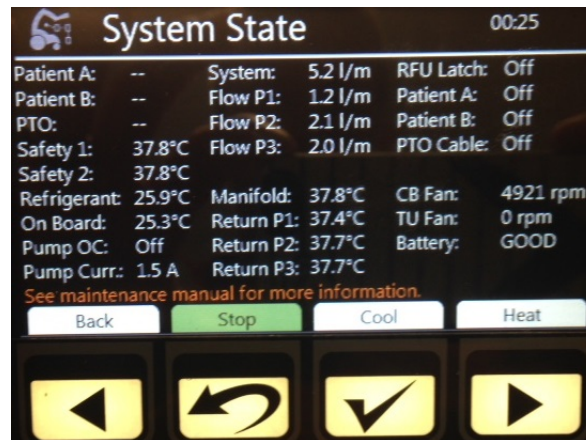

Figure 4 – System state
2. The system state (Figure 4 sample screen).